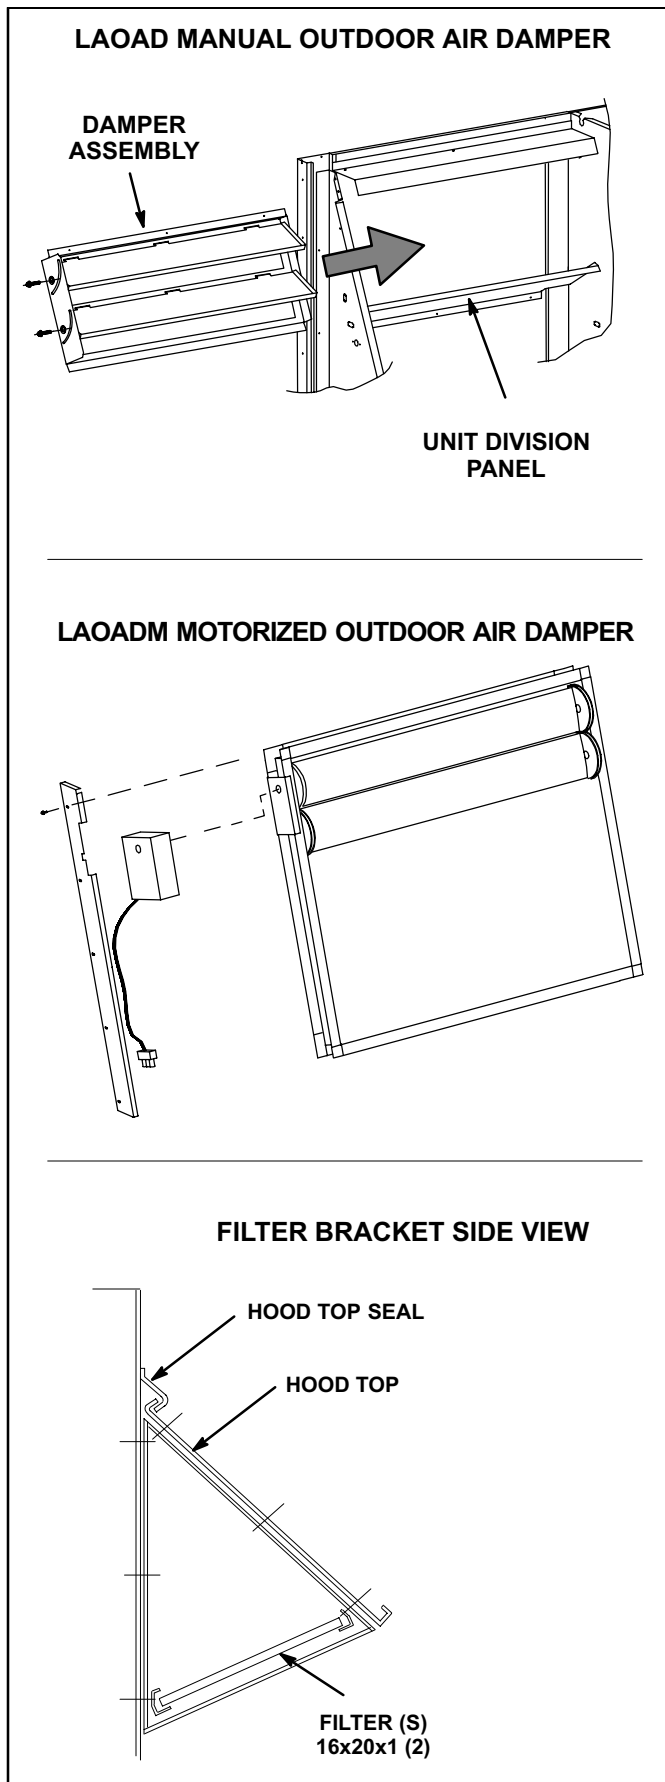

FIGURE 34
LAOADM08/10 and 10/15 and LAOD10/15 consists of dampers which may be manually or motor (M) operated to allow up to 25 percent outside air into the system at all times (see figure 34). Washable filters supplied with the outdoor air dampers can be cleaned with water and a mild detergent. It should be sprayed with Filter Handicoater when dry prior to reinstallation. Filter Handicoater is R.P. Products coating no. 418 and is available as Lennox Part No. P-8-5069.